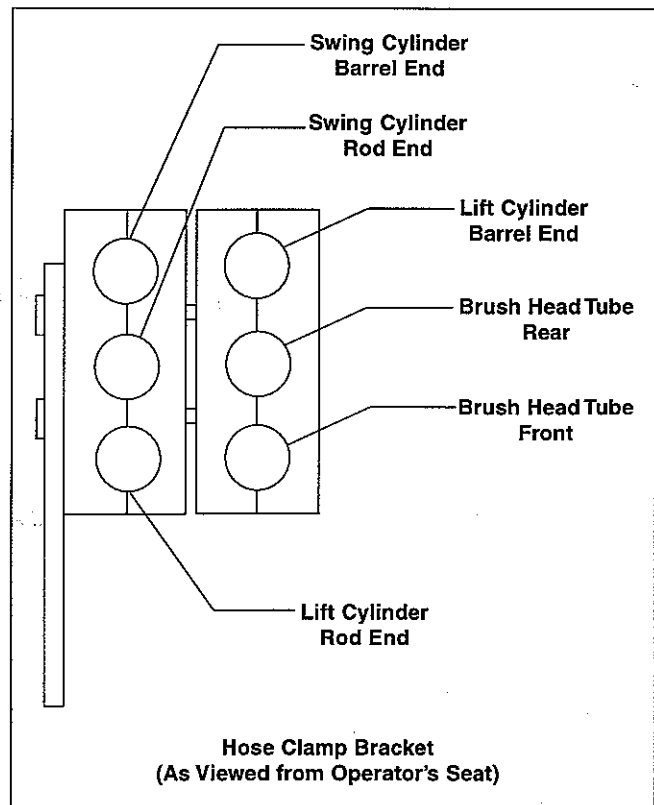

figure 10
- b. Referring to figure 10 for placement, install 3-position clamps and hoses by doing as follows: